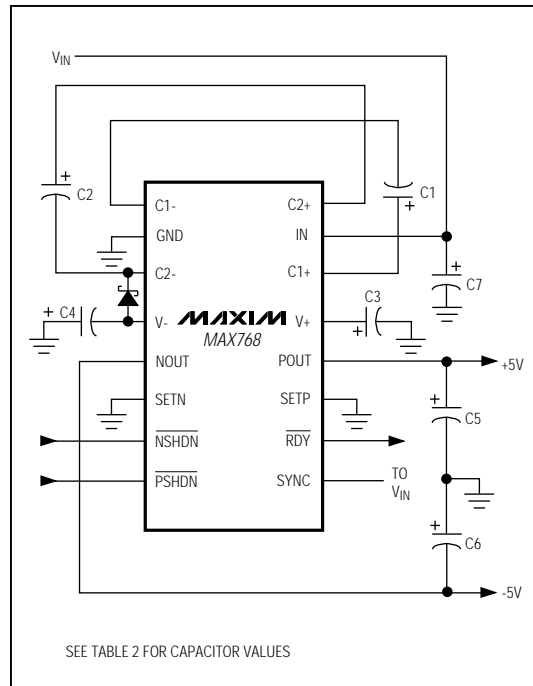
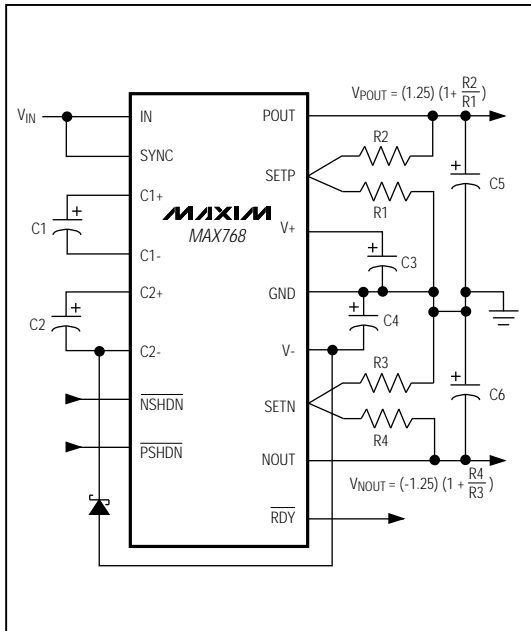

Figure 2. MAX768 Standard Application Circuit
Figure 3. MAX768 Adjustable Configuration
( $V_{IN} = +3V$ ,  $SYNC = IN$ ,  $SETN = SETP = GND$ ,  $\overline{NSHDN} = \overline{PSHDN} = IN$ ,  $T_A = -40^\circ C$  to  $+85^\circ C$ , unless otherwise noted. Typical values are at  $T_A = +25^\circ C$ . See Figure 2.) (Note 1)
Connect SETP or SETN directly to GND to select a fixed +5V or -5V output voltage, respectively (Figure 2). Select an alternative voltage for either output by connecting SETP or SETN to the midpoint of a resistor voltage divider from POUT or NOUT, respectively, to GND (Figure 3). ( $2 \times V_{IN}$ ) must be 1.0V above the absolute value of the output voltage to ensure proper regulation. Calculate the output voltage from the formulas below. Choose R1 and R3 at between 100kΩ to 400kΩ.
**Table 2. Charge-Pump Capacitor Selection (Figure 2)**